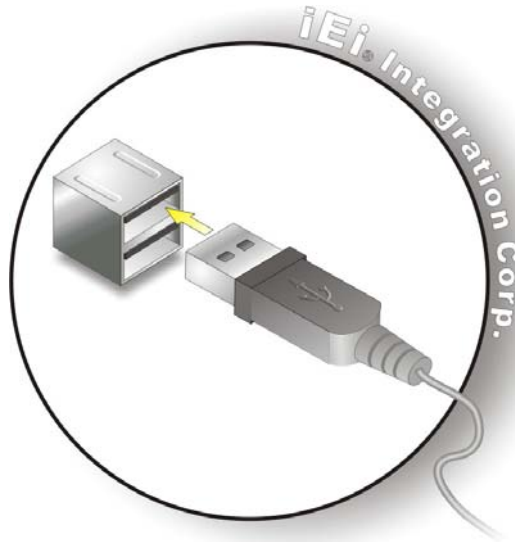

Figure 3-22: USB Device Connection
Step 2: Align the connectors. Align the USB device connector with one of the connectors. See **Figure 3-22**.